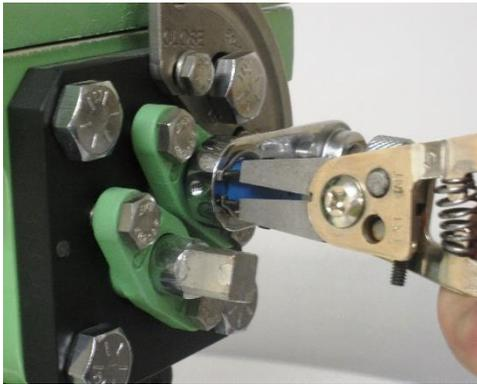

Figure 1
1. Using snap ring pliers to remove retainer ring located in front of the locking arm assembly on eccentric plug shaft. **(Figure 1)**